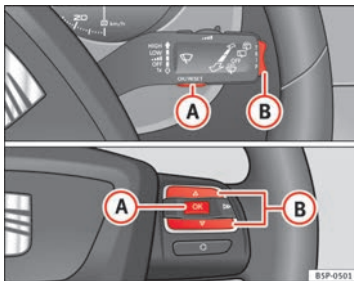

Fig. 41 Rocker buttons A and B. Steering wheel controls.
- When the ignition is on, briefly press button \Rightarrow Fig. 41 **A** on the windscreen wiper lever to change from one memory to another or press button **A** on the steering wheel controls \Rightarrow Fig. 41.